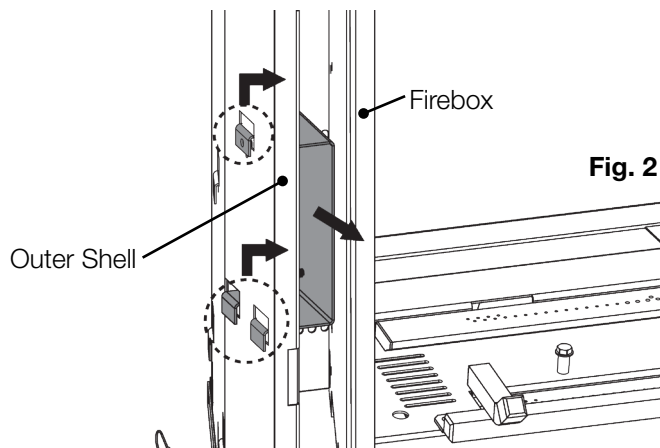

Fig. 2
2. Remove the 1 screw holding the bracket in place (**Fig. 1**). Lift the bracket up and out of the slots, lifting it through the opening between the firebox and the appliance's outer shell (**Fig. 2**).
4. Place the bracket and receiver back through the opening between the firebox and the appliance's outer shell. Slide the bracket and receiver into and down the slots (**Fig. 2 in reverse**).